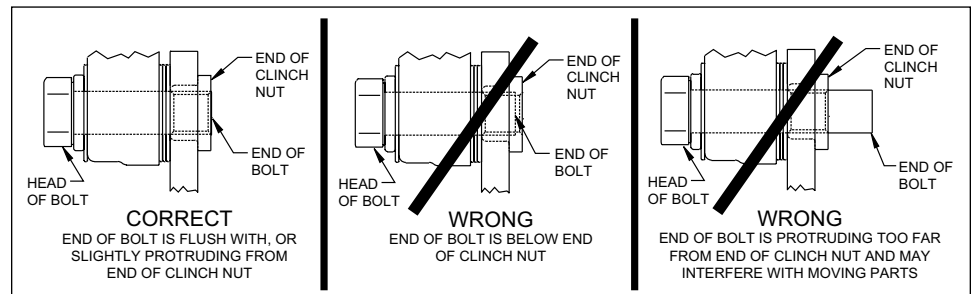

Figure 4. Clinch Nut Engagement Diagram
CAUTION: All mounting bolts must fully engage clinch nuts. Be sure to check that all bolts are either flush or protruding through flanged side of clinch nut after shimming, Figure 4.
Always use the same amount of shims on each of the two mounting bolts. **NOTE:** The end of each bolt must be flush with or slightly protruding from the head of the clinch nut, as shown in Figure 4. If necessary place spare shims between washer (6) and caliper mounting ear to achieve the proper clinch nut engagement. Once the caliper alignment and clinch nut engagement are correct, remove the bolts one at a time, apply red *Loctite*® 271 to bolt threads, and torque to 40 ft-lb.